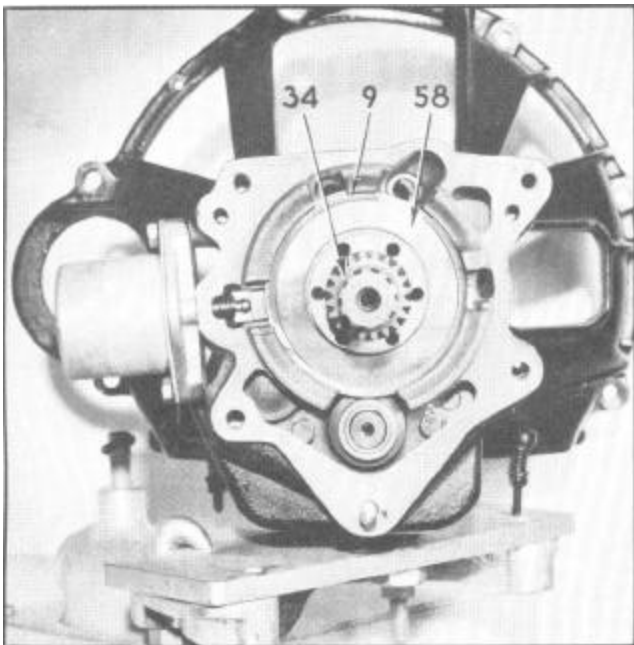

Figure 40--Installing Pinion Cage Ring Cover
10. Install pinion cage oil collector ring cover (58), Figure 40, and snap ring (9). Snap ring should be installed as shown to provide clearance